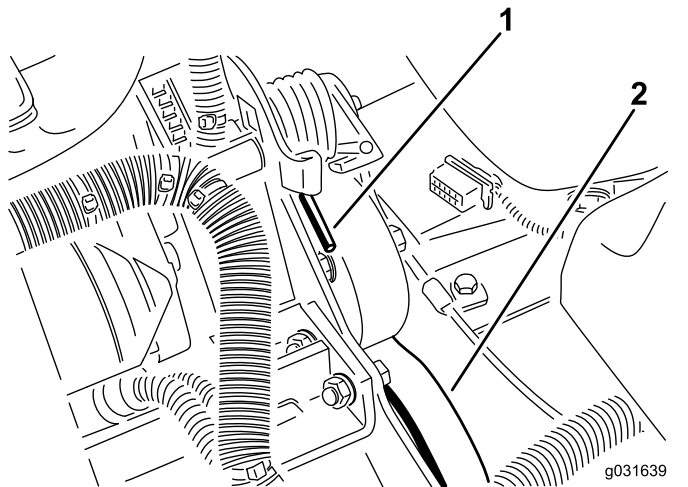

Figure 56
2. Push down and forward on the spring end to unhook it from the bracket and release tension on the spring (Figure 56).